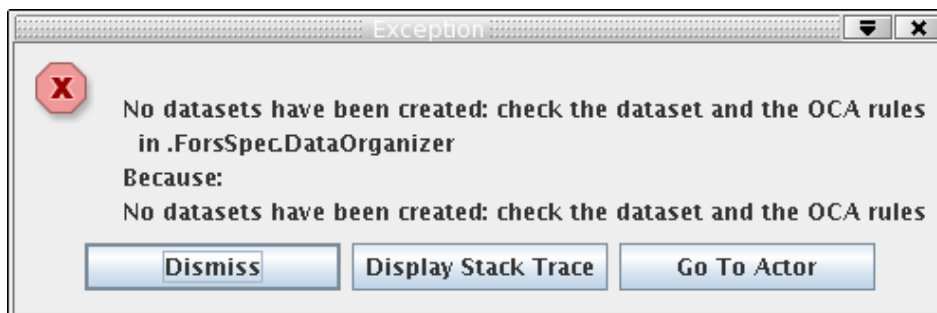

Figure 9.1: *TheDataOrganizer* interactive window reports an error “:No DataSets have been created, check the data set and the OCA rules.”.
- (b) **The DataOrganiser fails with the error message “:No DataSets have been created, check the data set and the OCA rules.”(see Figure 9.1.)**